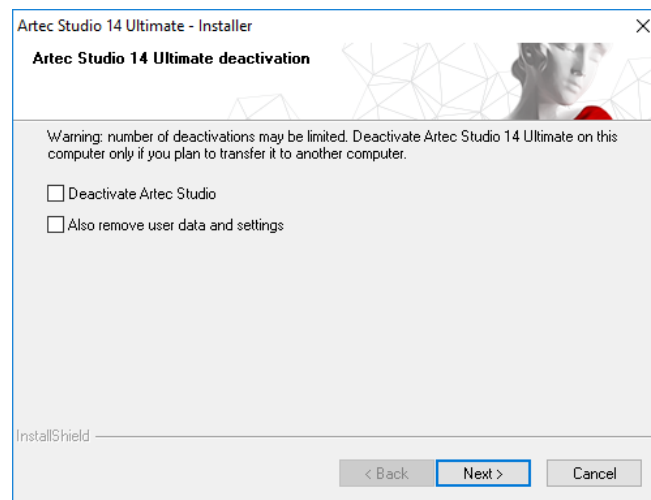

Figure 24: Deactivation of Artec Studio.
3. The dialog shown in *Figure 24* will appear. Select the *I understand. Deactivate Artec Studio* checkbox.